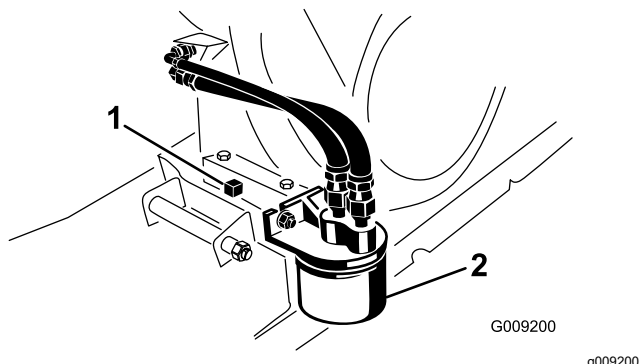

Figure 36
7. Place a drain pan under the drain plug (Figure 36).
8. Remove the drain plug and seal (Figure 36).
2. Remove the existing oil filter (Figure 36).
4. Thread the new filter onto the filter adapter until the gasket contacts the mounting plate, then tighten the filter an additional 1/2 to 3/4 turn (Figure 36).